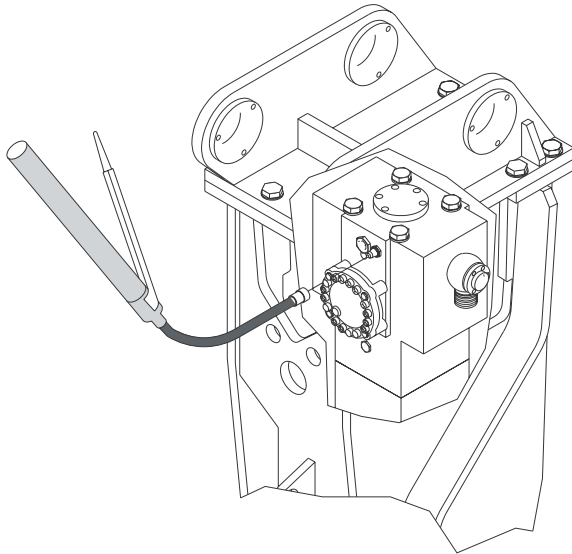

Figure 8-5. Lubricating the Demolition Tool
(Refer to Figures 8-5 and 8-6.)
2. Attach grease gun to lubrication fitting. On the Model 735, there is a lubrication hose attached to the lube fitting on the hammer that extends to a fitting on the box. Attach grease gun to the end of this fitting (see Figures 8-5 and 8-6).